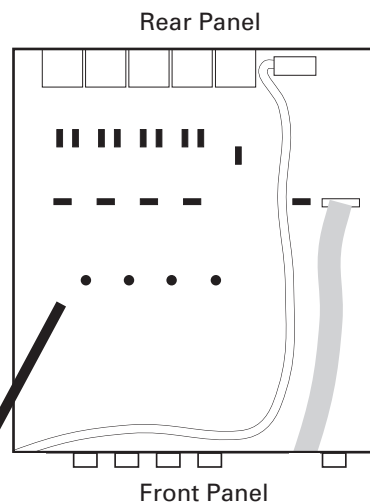

Figure 3. Internal view of mixer.
The SmartMixer has a substantial gain range, allowing it to accept a wide variety of microphones. However, if in some instances higher-output microphones are used for close talking, it may be necessary to reduce the preamplifier gain. This can be done by changing switch settings inside the unit. With the unit unplugged, remove the two screws on each side of the unit and remove the top cover. Locate the internal switches designated on the circuit board by “SW9,” “SW10,” “SW11” and “SW12” (Figs. 3 and 4, page 8). Changing the settings of these internal switches will cause a gain reduction of 10 dB for channels 1, 2, 3 and 4 respectively.
The SmartMixer’s output is factory set at line level. Should mic-level output be desired, simply unplug the unit, remove the top cover and locate the switch on the circuit board marked “SW15” (Figs. 3 and 4, page 8). Changing the setting of this switch will cause a 50 dB reduction in output.
Each of the SmartMixer’s inputs supplies +12V DC phantom power. Should it be required to disable the phantom power, simply unplug the unit, remove the top cover and locate the switches designated on the circuit board by “SW5,” “SW6,” “SW7” and “SW8” (Figs. 3 and 4, page 8). Changing the settings of these switches will disable phantom power on channels 1, 2, 3 and 4, respectively. Note that, although they do not require phantom power for operation, most balanced-output dynamic microphones can be used without disabling the SmartMixer’s phantom power.
The Output Level LED meter is factory set to indicate RMS output. Should peak output indication be desired, simply unplug the unit, remove the top cover and change the setting of the switch designated on the circuit board by “SW16” (Figs. 3 and 4). “Zero” (0) level is factory-calibrated at +4 dBm into 600 ohms.
In instances when the number of microphones in use is high, it may be necessary to increase the amount of “off” attenuation per microphone to keep the total ambient noise level low. There are “off” attenuation adjustments inside the unit. To adjust the “off” attenuation of channel 1, unplug the unit, remove the top cover and locate the trimpot designated on the circuit board by “VR5” (Figs. 3 and 4). It is factory set at approximately 8 dB, the attenuation at the middle of the control’s rotation. When the control is turned fully counter-clockwise, “off” attenuation is approximately 20 dB. Conversely, when the adjustment is turned fully clockwise, “off” attenuation is approximately 6 dB. VR6, VR7 and VR8 control “off” attenuation for channels 2, 3 and 4 respectively.